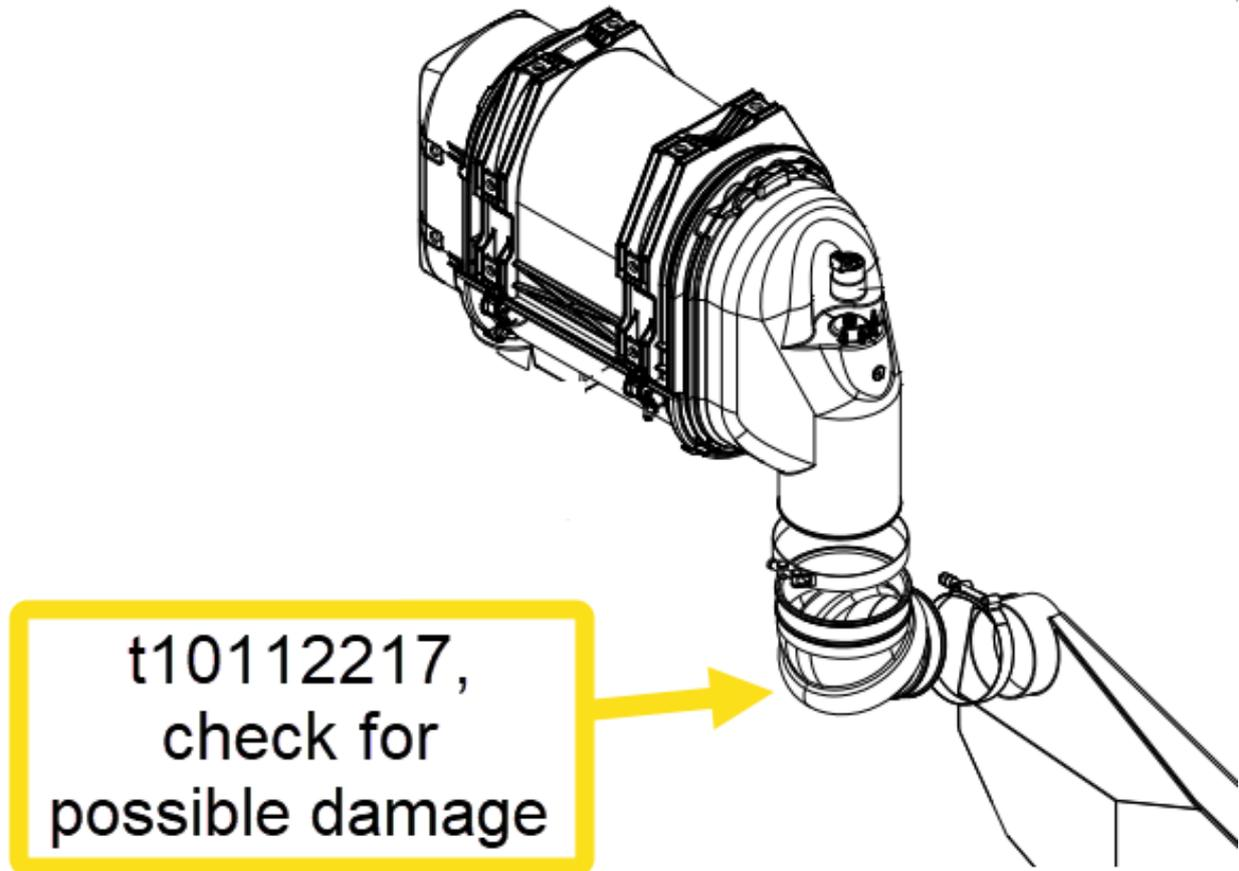

figure 4, intake hose t10112217
9. Check if the cover has been wearing on the air intake hose t10112217. Replace this intake hose when visibly worn due to contact with the cover. See figure 4.